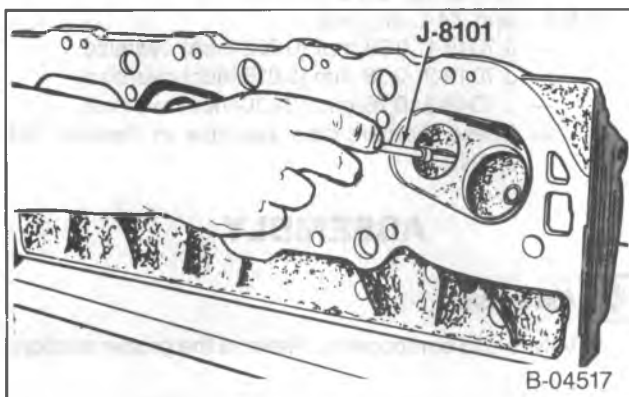

Figure 31—Cleaning the Valve Guides (Typical)
- Valve guides. Use J 8101 (figure 31).